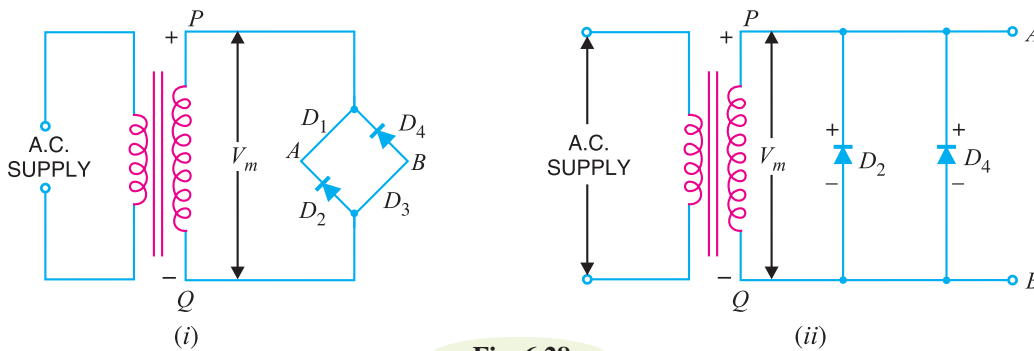

Fig. 6.28
**Peak inverse voltage.** The peak inverse voltage (PIV) of each diode is equal to the maximum secondary voltage of transformer. Suppose during positive half cycle of input a.c., end  $P$  of secondary is positive and end  $Q$  negative. Under such conditions, diodes  $D_1$  and  $D_3$  are forward biased while diodes  $D_2$  and  $D_4$  are reverse biased. Since the diodes are considered ideal, diodes  $D_1$  and  $D_3$  can be replaced by wires as shown in Fig. 6.28 (i). This circuit is the same as shown in Fig. 6.28 (ii).
Referring to Fig. 6.28 (ii), it is clear that two reverse biased diodes (*i.e.*,  $D_2$  and  $D_4$ ) and the secondary of transformer are in parallel. Hence PIV of each diode ( $D_2$  and  $D_4$ ) is equal to the maximum voltage ( $V_m$ ) across the secondary. Similarly, during the next half cycle,  $D_2$  and  $D_4$  are forward biased while  $D_1$  and  $D_3$  will be reverse biased. It is easy to see that reverse voltage across  $D_1$  and  $D_3$  is equal to  $V_m$ .